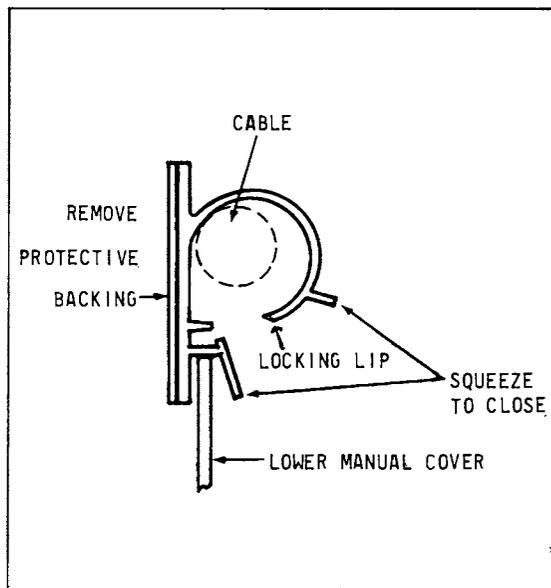

Figure A-2.
To install clips (See Figure A-2):
- Install as shown in Figure A-2.
2. Install as shown in Figure A-2.